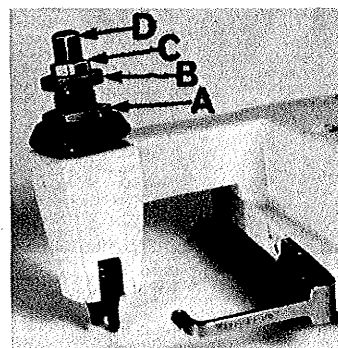

Fig. 2
Sufficient presser foot pressure to feed work uniformly should be maintained. Should it be necessary to increase or decrease amount of pressure on presser foot, loosen lock nut (A, Fig. 2) and turn adjusting screw (B). Adjusting screw has a right hand thread so tightening increases pressure, loosening decreases pressure. When pressure adjusting screw (B) has been properly set, tighten lock nut (A). With presser foot resting on throat plate, position locking nut (C) so that its under surface is approximately $1/32$ to $1/16$ inch (.79 to 1.59 mm) from the top surface of adjusting screw (B). Set cap (D) against locking nut (C).